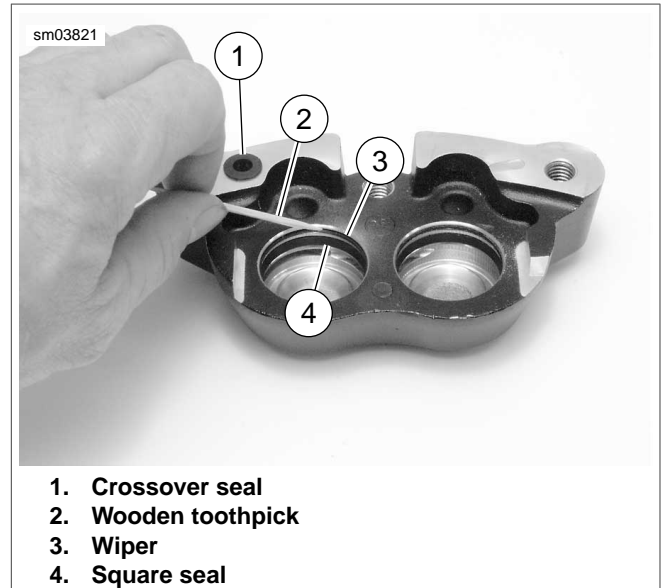

Figure 2-70. Wipers and Seals
6. See Figure 2-70. Remove and discard crossover seal (1) from inside caliper housing.
7. Using a wooden toothpick (2), remove a wiper (3) and square seal (4) from each caliper bore. Discard all removed parts.